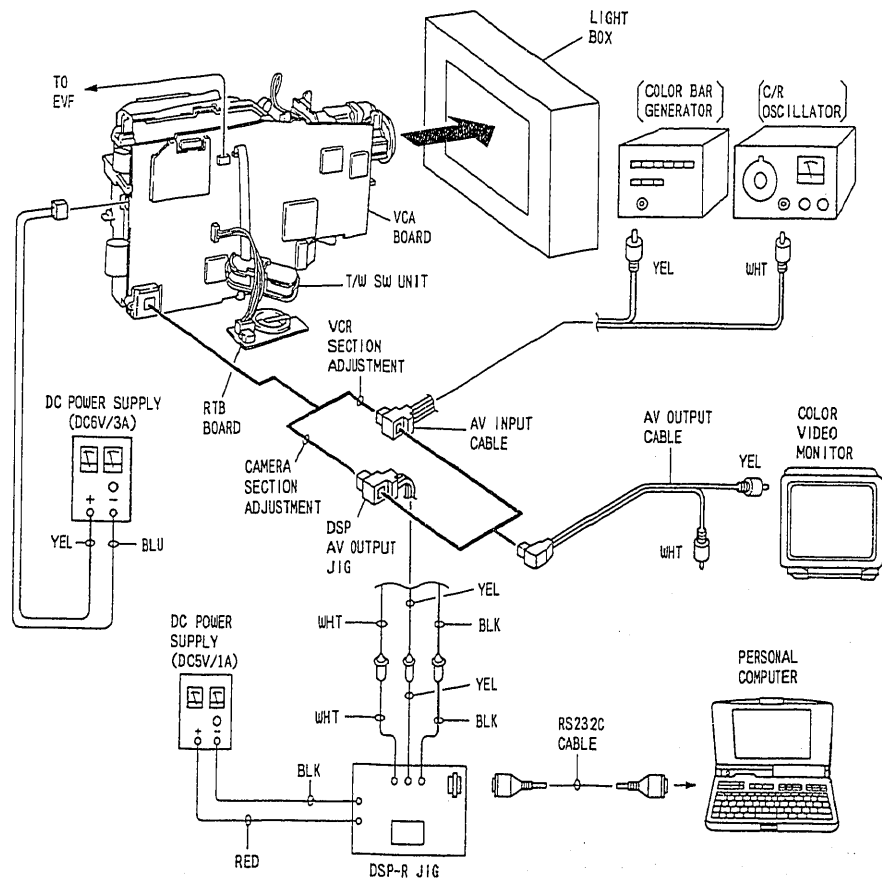

Fig. 1-1
- 3) Connect this unit, a power supply and a color video monitor as shown in Fig. 1-1.